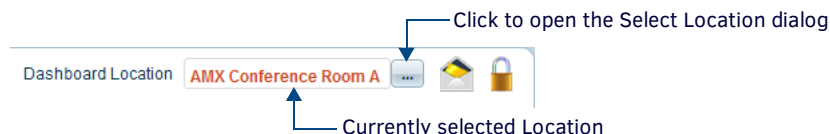

FIG. 73 Dashboard - Select Location
1. Click on the down-arrow next to the **Select Location** field (FIG. 73): .